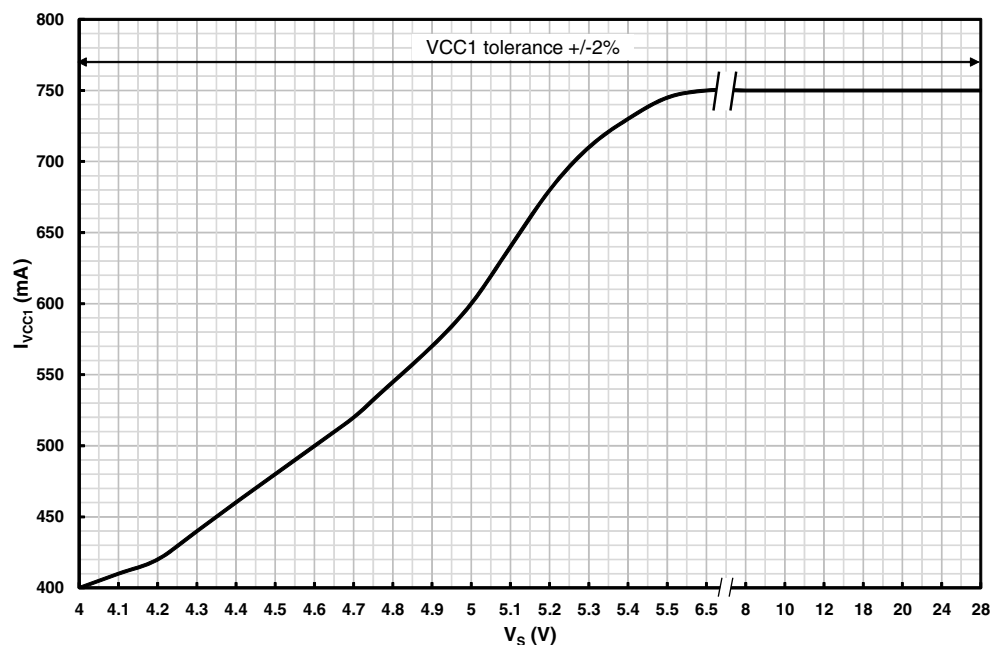

Figure 13 Maximum DCDC Buck current capability versus V_S
- PWM Mode (Pulse Width Modulation): This mode is available in SBC Normal Mode, SBC Restart Mode and SBC Stop Mode (only for automatic or manual PFM to PWM transitions. Refer to Chapter 6.2.2). In PWM, the Buck converter operates with a fixed switching frequency (f_{BUK}). The duty cycle is calculated internally based on input voltage, output voltage and output current. The precision is $\pm 2\%$ on input supply and output current range (refer to Figure 13 for more information). In PWM Mode, the Buck converter is capable of a 100% duty cycle in case of low V_S conditions. In order to reduce EMC, the edge shaping feature has been implemented to control the activation and deactivation of the two power switches.
Note: **Figure 13** is based on characterization results overtemperature with external components specified in **Chapter 14.1**.